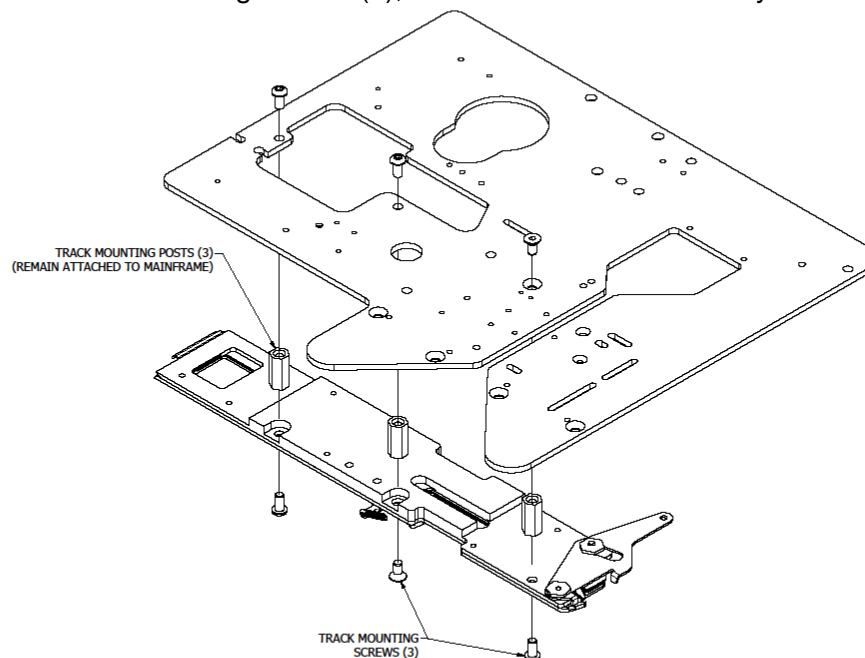

Figure 4.4
*Reference Figure 4.4*
- i) Unscrew the track mounting screws (3), and remove track assembly from main frame.